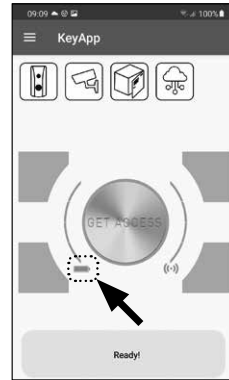

Fig. 122
**Tip:** It is recommended that the batteries in the cylinder and keypad are always replaced at the same time. Nonetheless, the battery status of the cylinder can be checked separately at any time. This can be found on the main screen of the secuENTRY KeyApp (Fig. 122).